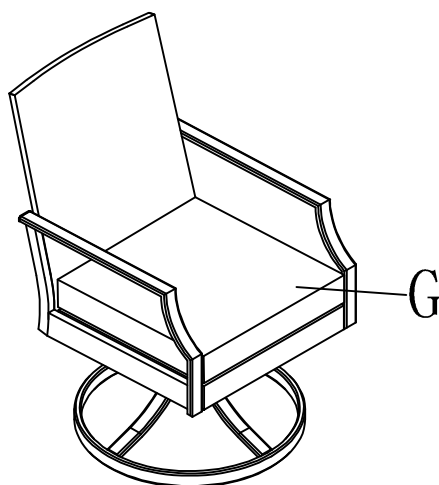

Figure 4
Step 4. Put the cushion (G) on the chair, now your chair is ready for your enjoyment. See Figure 4.